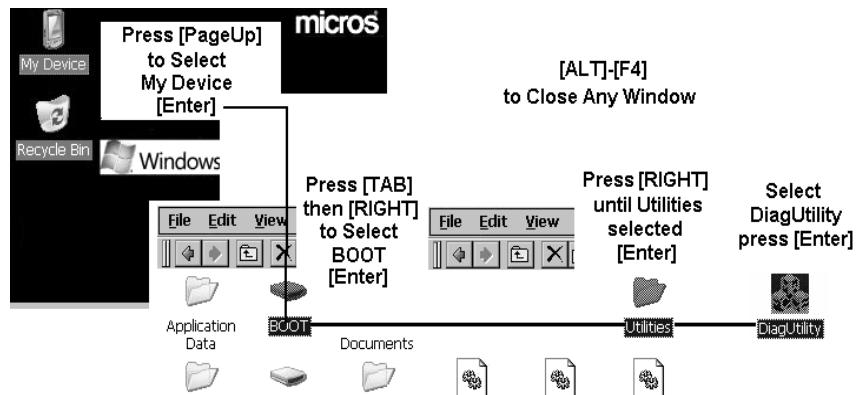

Figure 4-1: Starting the DiagUtility from the Keyboard
1. To start the KW270 DiagUtility from the desktop, see the illustration below. You can use the keyboard to select My Devices and navigate to the **BOOT\Utilities** folder and start the DiagUtility. This sequence is illustrated in Figure 4-1, below.